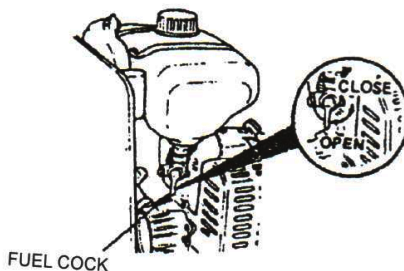

Fig .10
1) Open the fuel cock. (Fig. 10)